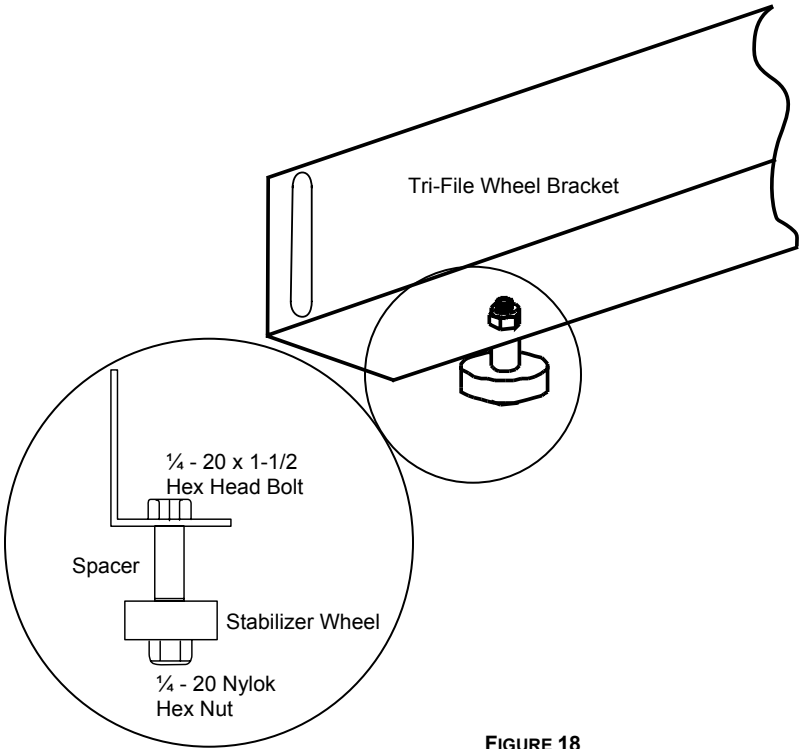

FIGURE 18
STEP 1 Assemble the Stabilizer Wheel to the Tri-File Wheel Bracket to the outside edges of the bracket. Use the following hardware; two (2) 1/4 -20 x 1- 1/2 hex head bolts, two (2) 1/4 -20 nylok hex nuts, two (2) Spacers, and two (2) Stabilizer Wheels. **See Figure 18.**